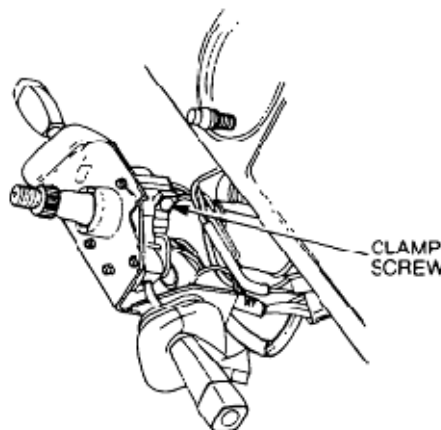

Figure 166 Combination Switch Removal
- i. Remove the three screws securing the switch to the combination switch bracket (Figure 166).